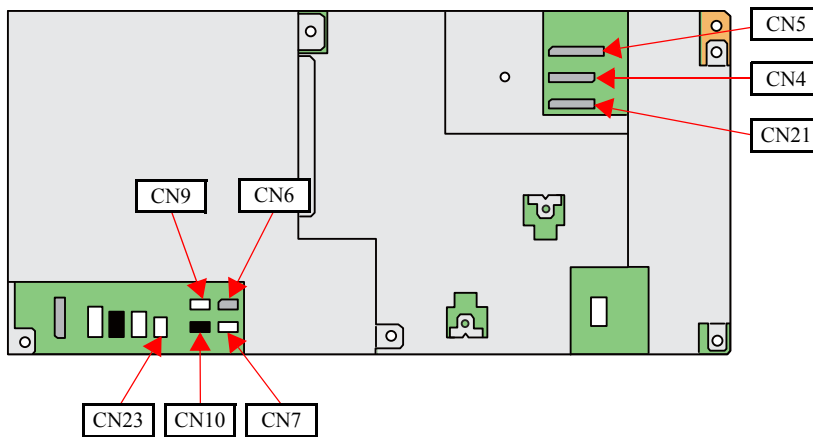

Figure 4-21. Connector Layout of the Main Board Unit
2. Connect the Head FFCs to connectors CN4, 5, 21 on the Main Board. (See Figure. 4-21.)